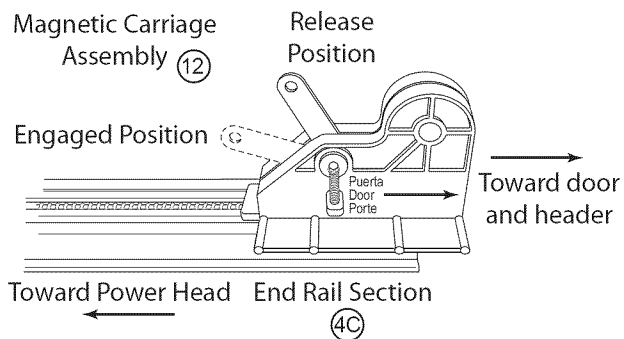

Figure 12 Slide Magnetic Carriage onto Rail
- B Slide Magnetic Carriage Assembly into slot on End Rail Section with arrow pointing away from the Power Head (Figure 12).